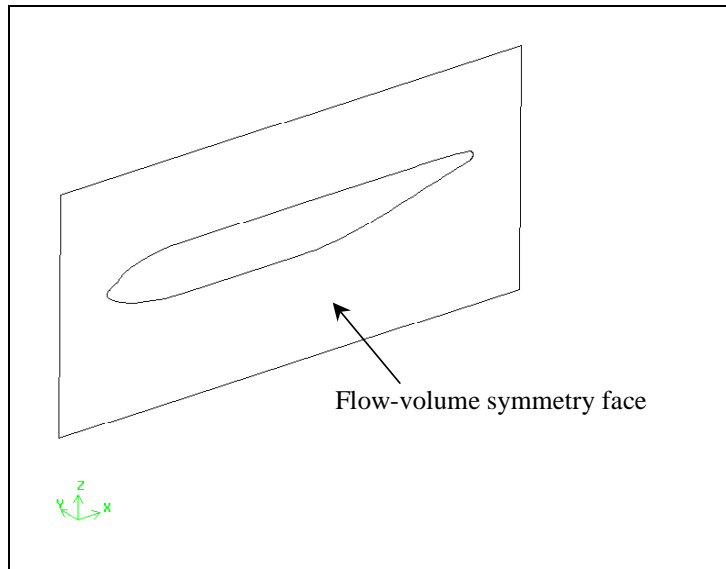

Figure 14-18: Flow-volume symmetry face
GAMBIT renders the model invisible except for the flow-volume symmetry face (see Figure 14-18).
- f) Select the flow-volume symmetry face (see Figure 14-18, above).